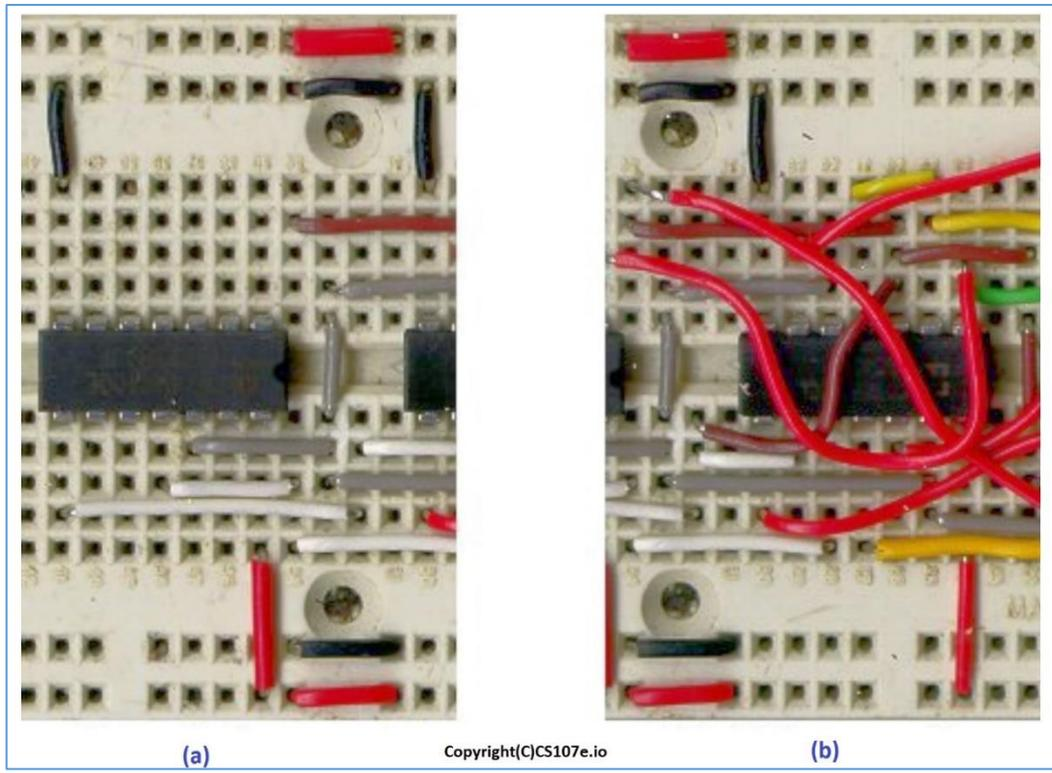

Figure 54 - Examples of a good assembling in (a) and bad assembling in (b).
7. Good assembling techniques are very important in the assembly of electronic components in Protoboard. See example of a good assembly in **(a)** and a middle assembly in **(b)**, of **figure 54**.